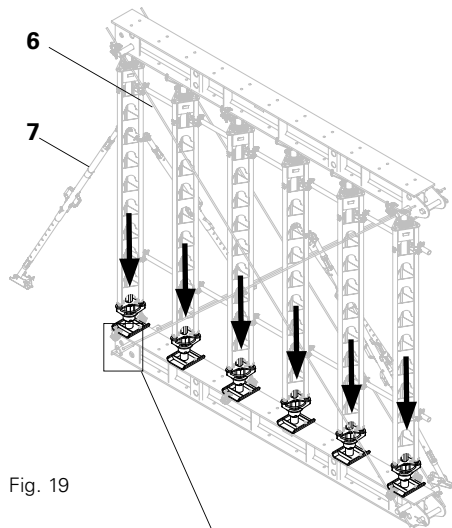

Fig. 19
2. Re-adjust the Push-Pull Props (7) after every lowering procedure. (Fig. 19)
3. Re-adjust the Push-Pull Props (7) after every lowering procedure. (Fig. 19)